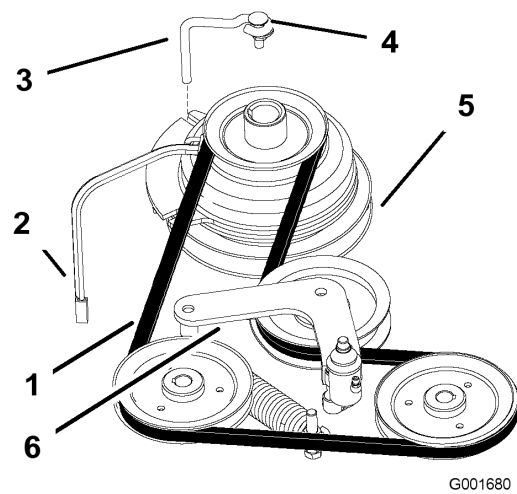

Figure 51
2. Remove the bolt from the clutch stop and unplug the clutch electrical wire (Figure 51).
4. Remove the traction belt from the engine and the hydraulic pump pulleys (Figure 51).
5. Install the new belt around the engine and the hydraulic pump pulleys (Figure 51).
7. Release the pressure on the spring loaded idler (Figure 51).